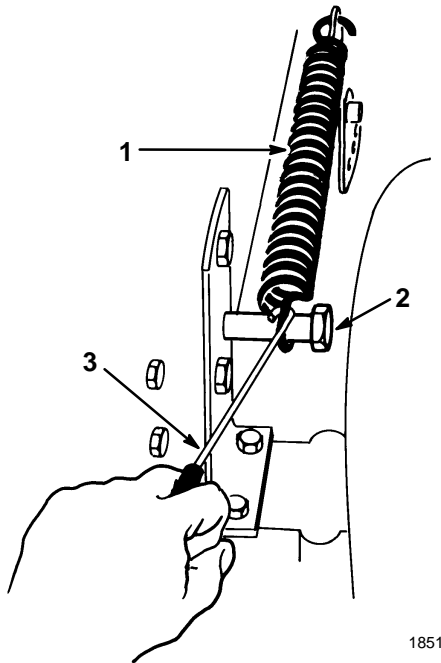

Figure 37
4. Remove the height-of-cut lift assist spring from the retaining bolt (Fig. 37), using the spring tool provided with the machine. The spring is between the frame and the right rear wheel.
13. Move the height-of-cut lever (deck lift) into the "D" notch. Hook lift assist spring onto retaining bolt for storage (Fig. 37).
15. Hook the height-of-cut lift assist spring onto the retaining bolt (Fig. 37), using the spring tool provided with the machine.